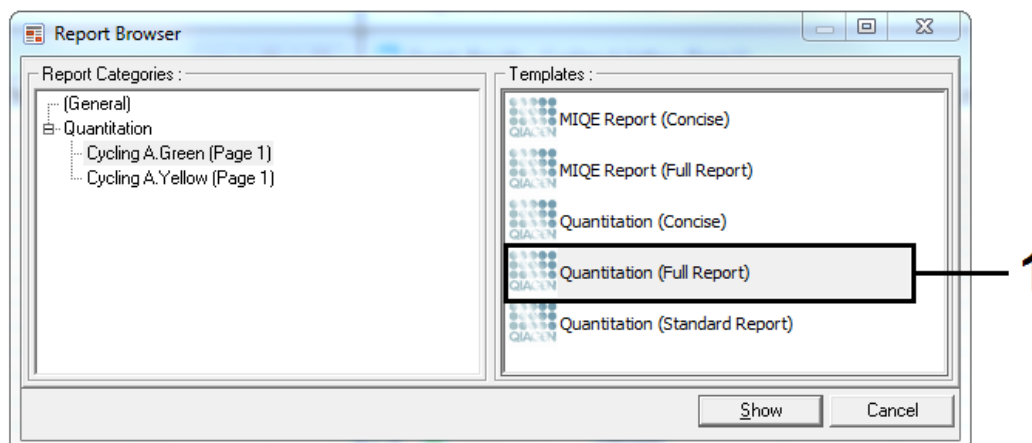

Figure 8. Report Browser. 1 = “Quantitation (Full Report)”.
10. Select “Quantitation (Full Report)” under “Templates” (Figure 8).